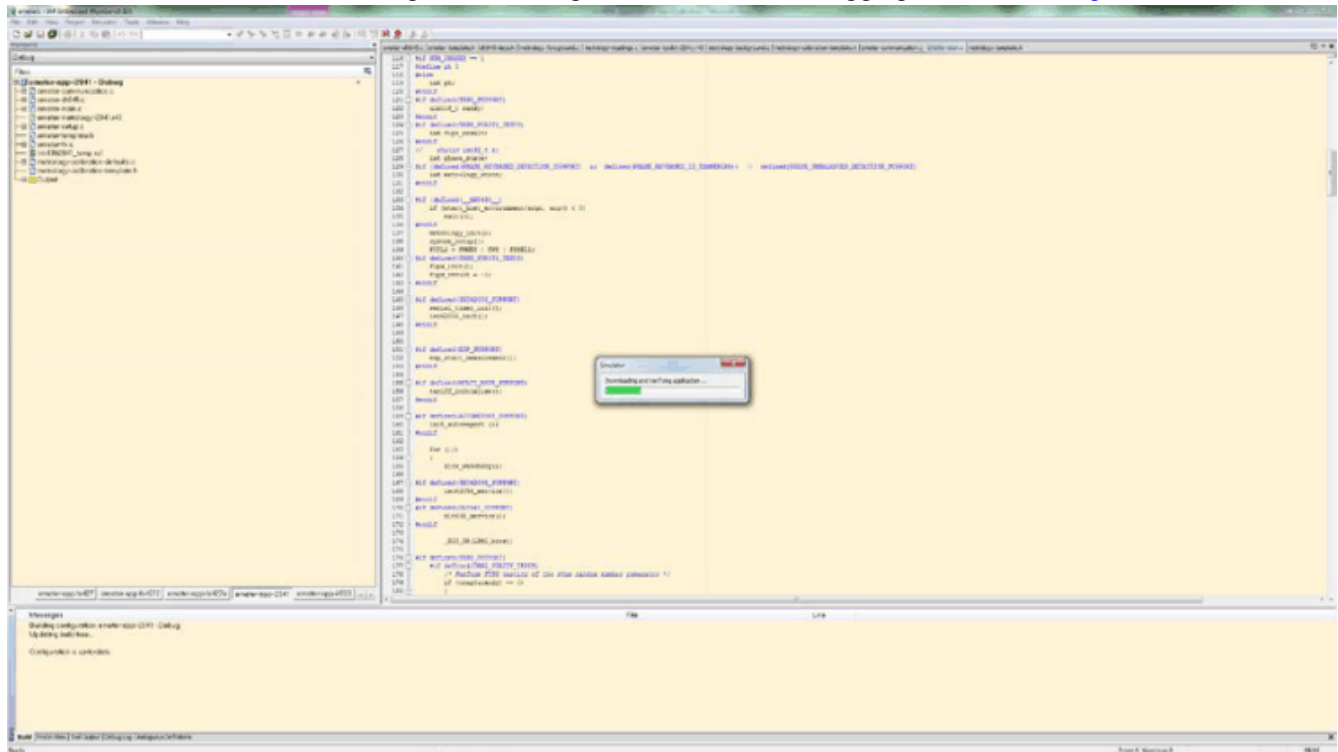

Figure 9-9. Code Downloading
11. Click the Download and Debug button to begin download and debugging as shown in Figure 9-9.